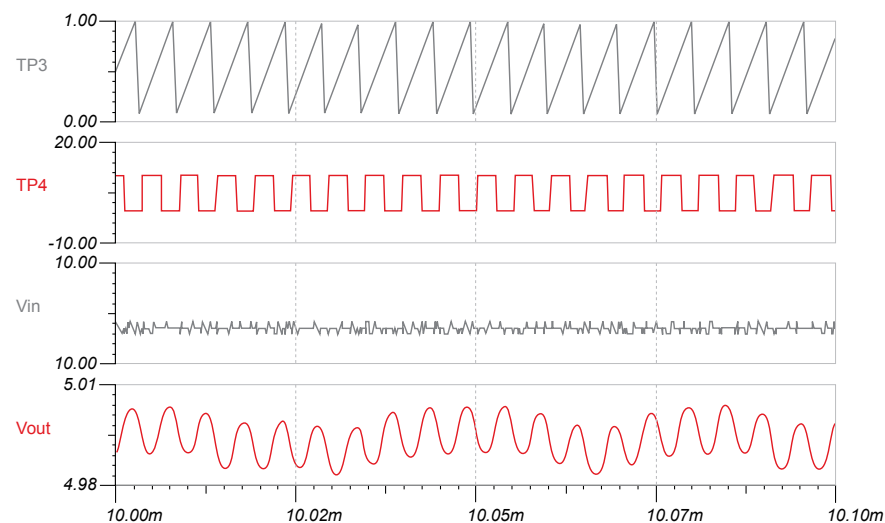

Figure 12.2: Simulation waveforms - TP3 is the PWM waveform and TP4 is the switching waveform
- 2 Simulate the configured circuit using a simulator. The typical waveforms will be of the form shown in Figure 12.2.
- 3 Configure the on board evaluation module to generate a regulated output voltage of 5V, and observe the waveforms mentioned in Figure 12.2 and compare with the simulation results.